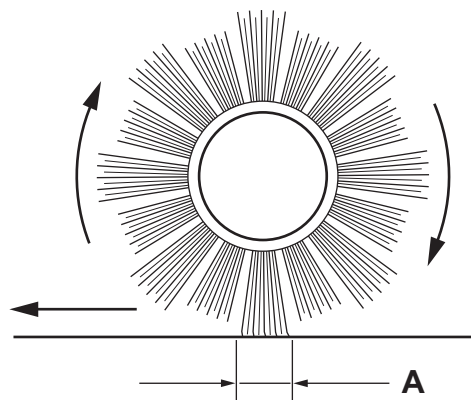

Figure 2
- Check that the main broom print (A, Fig. 2), along its length, is 2 to 4 cm wide.